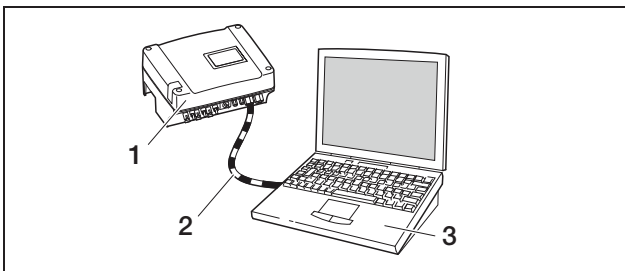

Fig. 25: Connecting inverter and computer with crossover cable
- b) directly via a so-called crossover cable (see figure 25).
Note: Ethernet cables (“network cables”) are standard connection cables commonly used for computer networks. These cables are suitable for most applications and available from computer specialty traders. A crossover cable is a special type of Ethernet cable for which the plugs are occupied differently. In this way two devices can be directly connected to one another without a switch or hub being necessary. You only require a crossover cable when you wish to connect the inverter directly to a computer, meaning without a switch/hub (Fig. 25).